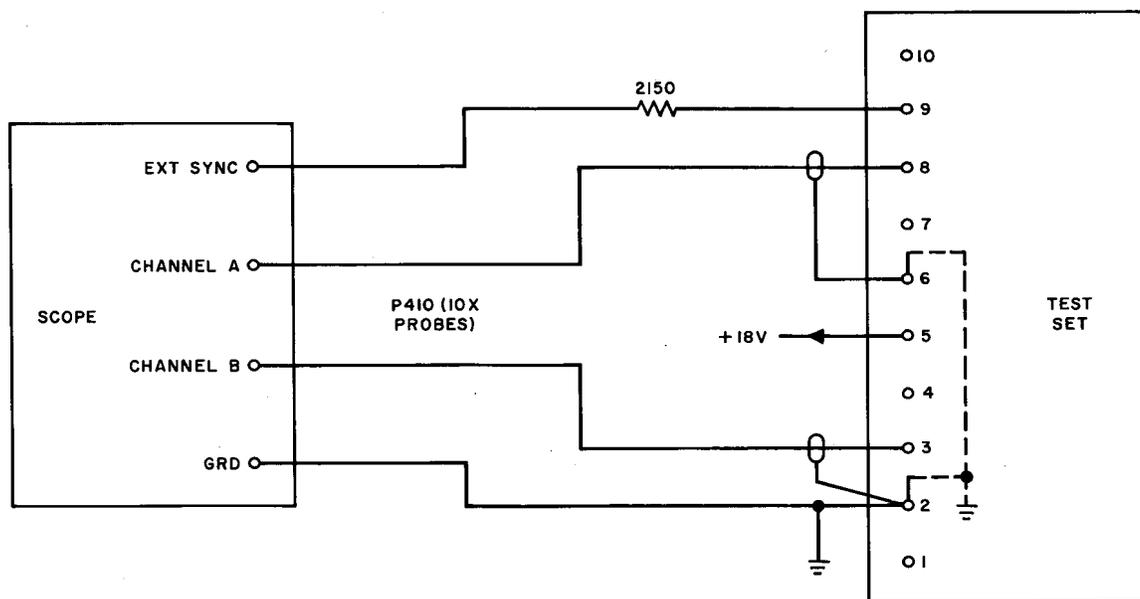

Fig. 34A — Monopulser Test Circuit
- (1) Set up the test circuit as shown in Fig. 34A. The scope EXT SYNC TRIGGER se-